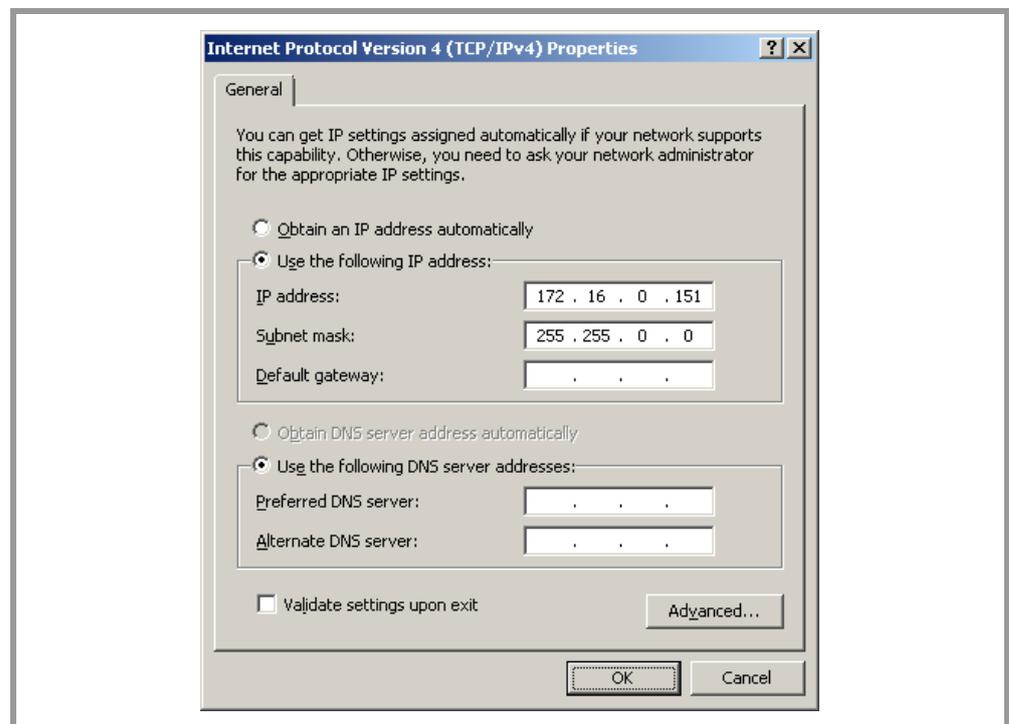

Fig. 7 The "Internet Protocol Version 4 (TCP/IP)" properties dialog for the "Local Area Connection"
5. Enter an IP address from the private IP address range which is always immediately available, even if a network cable is not plugged into the target system. An example is shown in Fig. 7.
3. In the item list of the "Properties" dialog select the "Internet Protocol Version 4 (TCP/IPv4)" and click on "Properties". A dialog similar to the one shown in Fig. 7 appears.